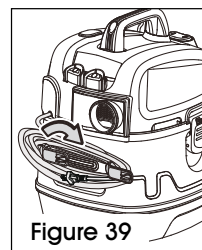

Figure 39
3. When ready to use vacuum, simply rotate one hook inward to quickly release the cord. (See Figure 39)